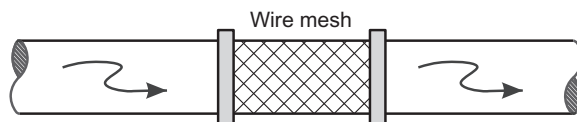

FIG. 10.5 Water hammer suppression device.
1. See Fig. 10.5. I learned this technique from a colleague in India.